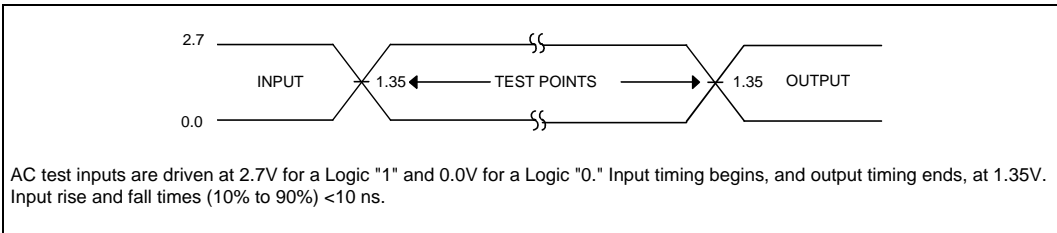

Figure 14. Transient Input/Output Reference Waveform for $V_{CC} = 2.7\text{V}–3.6\text{V}$
5. See Figures 14 through 16 for testing characteristics.